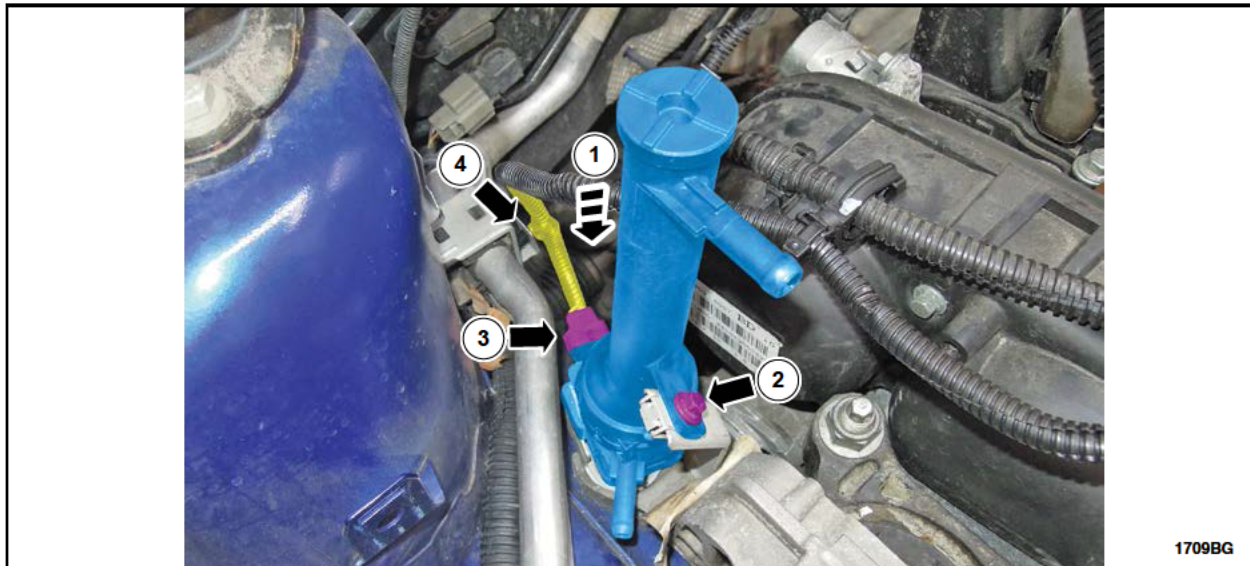

FIGURE J3
3. Install the coolant stand-pipe to the bracket. See Figure J3.